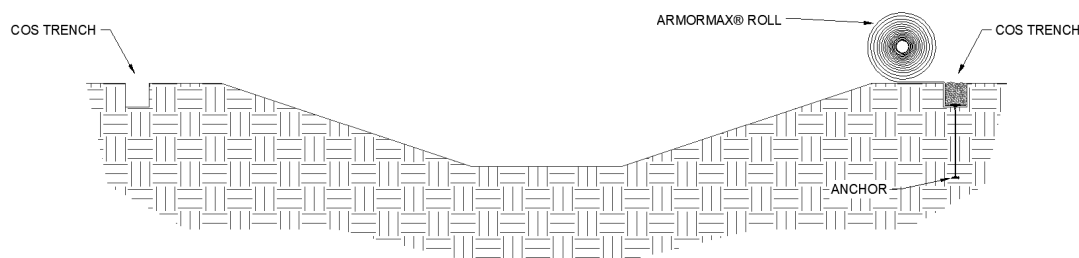

Figure 8: Crest of Slope (COS) Trench Placement
8. Backfill and compact the COS trench in the location of the first HPTRM panel only (Figure 8).